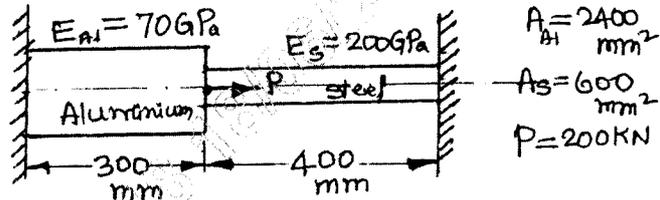

Fig.Q4(a)
- 4 a. For the stepped bar shown in Fig.Q4(a). Determine the nodal displacements, stress in each element and left support reaction. (10 Marks)